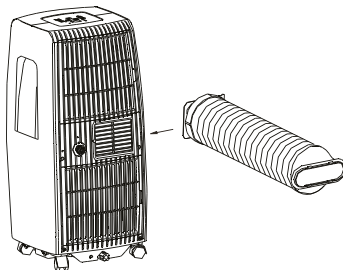

Fig. 4-3
2. Install hose for air outlet into the hole ( Fig. 4-3).